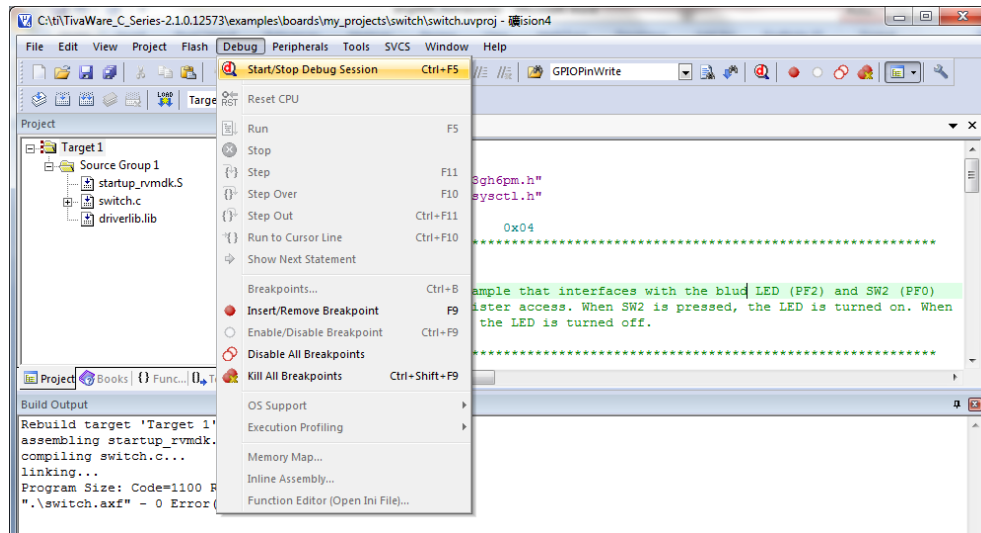

Figure 7
7. Now you can start to simulate the program. Click *Debug->Start/Stop Debug Session* (see Figure 7), then click OK. The simulation starts. You will see several monitor windows as shown in Figure 8 including the *Registers Window*, *Disassembly Window*, *source code window*, and *Memory 1 Window*.